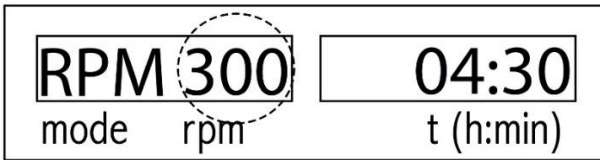

Figure 16: Operating Mode B – setting the speed
- By pushing the right rotary knob again, the speed variable will be flashing and the speed value will be set by rotating the other (in the left side) rotary knob. (in figure 16 The dashed line is a flashing variable in the display). In the end, by pushing the right rotary knob, all the settings will be set.